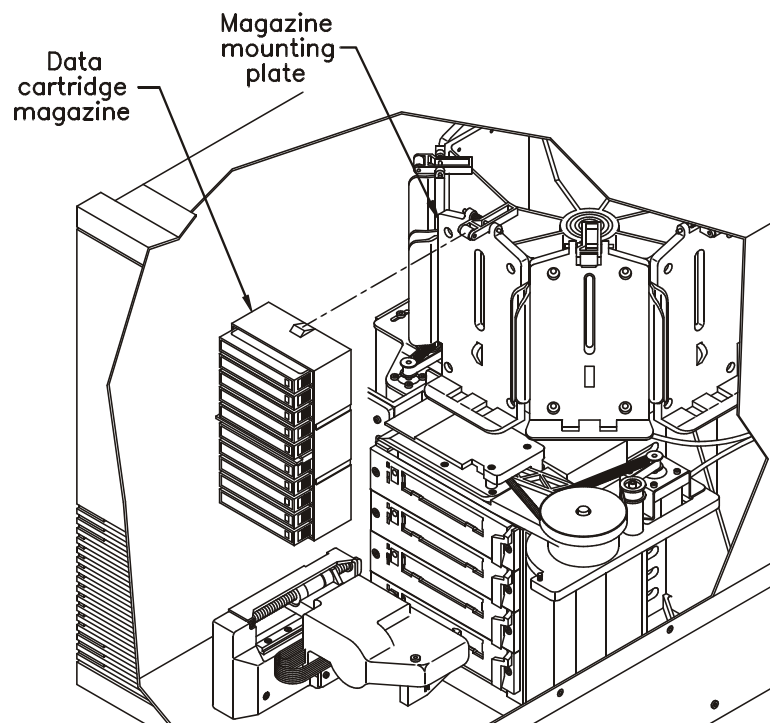

Figure 4-5 Replacing a cartridge magazine
5. Grasp the cartridge magazine on either side, pull the upper end out first, and remove it from the mounting plate. See Figure 4-5.